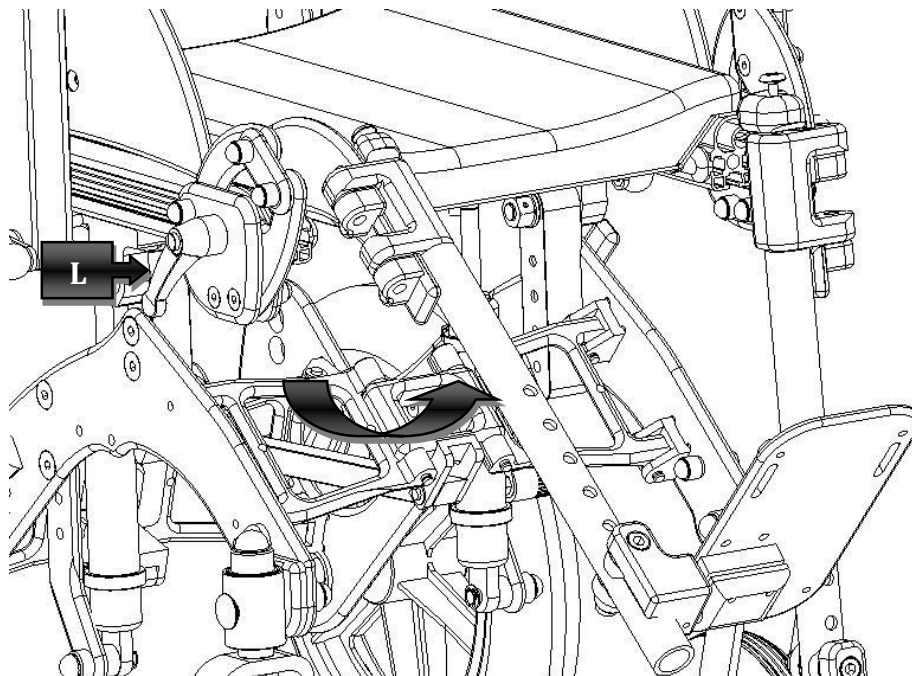

Figure 21
The elevation of the footrest can be performed by acting on the lever (L) and rotating the footrest as shown in Figure 21.